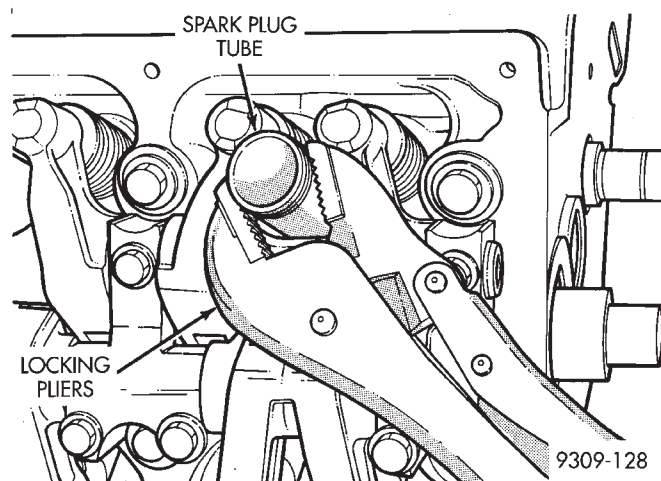

Fig. 5 Servicing Spark Plug Tubes
(1) Remove valve cover. Refer to procedure outlined in this section for procedure.
(2) Using locking pliers remove the tube from the cylinder head (Fig. 5). Discard old tube.
(3) Clean area around spark plug with MOPAR parts cleaner or equivalent.
(4) New tubes have sealer applied to them **Do Not Use Additional Sealer On Tube.**
(5) Install **New Tube** with using the spark plug tube nut and a 32 mm socket **Immediately** tighten to 41 N•m (30 ft. lbs.).
(6) Install valve cover. Refer to procedure outlined in this section for procedure.